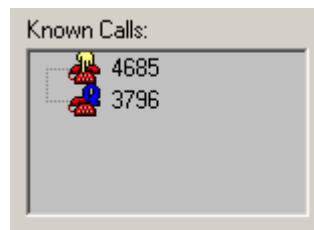

Figure 24: CTI: Extension 4685 Sending Call to Queue 3796
4. Make a call from an external source (either another configured SAP agent or a physical phoneset) to the queue to which you have the SAP agent logged on. Figure 24 shows the state of the current calls.